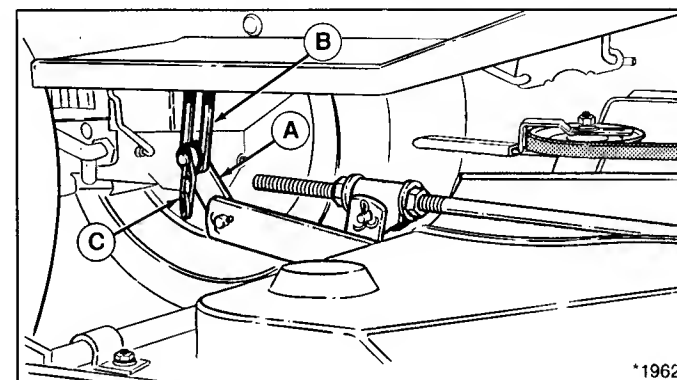

Figure 18.
5. Disconnect mower lift arm (A, figure 18) from tractor lift arm (B) by removing safety clip (C) and flat washer from weld stud. Reinstall washer and clip on mower lift arm for storage.